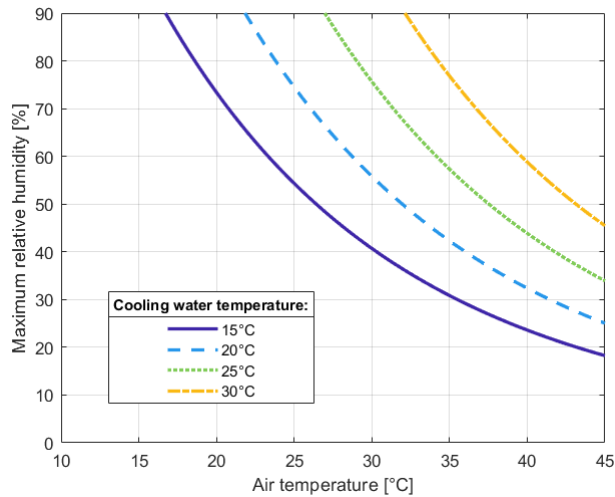

Figure 13 Maximum allowed relative humidity as a function of the air temperature for each cooling-water temperature
• water temperature between 15°C and 20°C (non condensing, refer to Figure 13) • backing pump with pumping speed equal or above 5 m³/h
Relative humidity of air	From graph in Figure 13 (non condensing) **